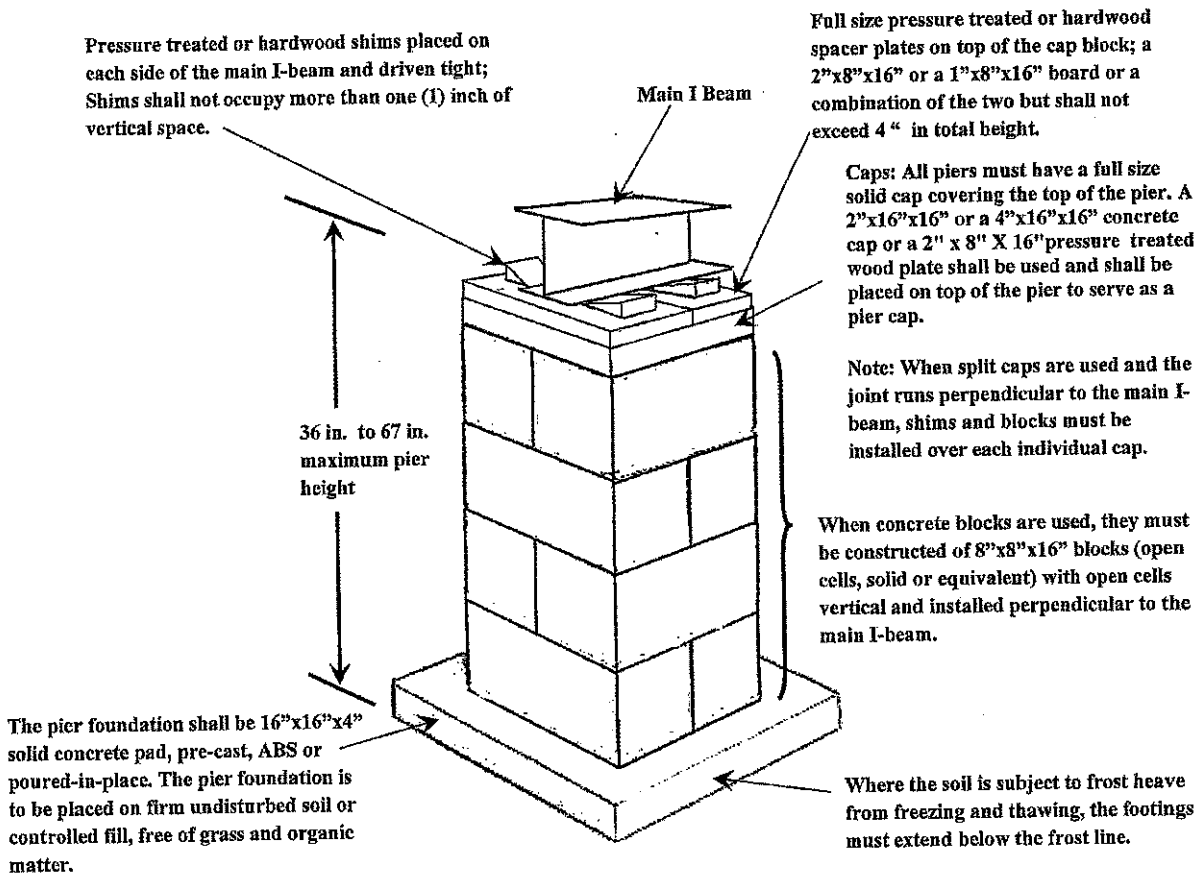

Figure 5. Double Block Pier Construction.
All corner piers shall be double tiered units at least 16" x 16" consisting of interlocking masonry units and shall be fully capped as shown in Figure 5. Two 8 x 16 x 4 inch concrete cap blocks or two 2x8x16 inch treated wood plates may be used on a double tiered pier provided that the joint between the blocks or plates is perpendicular to the joint between the open cell concrete blocks and is also perpendicular to the I-beam. The corner piers shall be placed not more than 2 ft. and not less than 1 ft. from the end of each I-beam.
A. Piers 36 inches to 67 inches high shall be double-tiered units at least 16x16 inches consisting of interlocking masonry units and shall be fully capped with a 2 inch or 4 inch thick solid masonry unit or a 2"x8"x16" pressure treated wood plate. (See Figure 5).